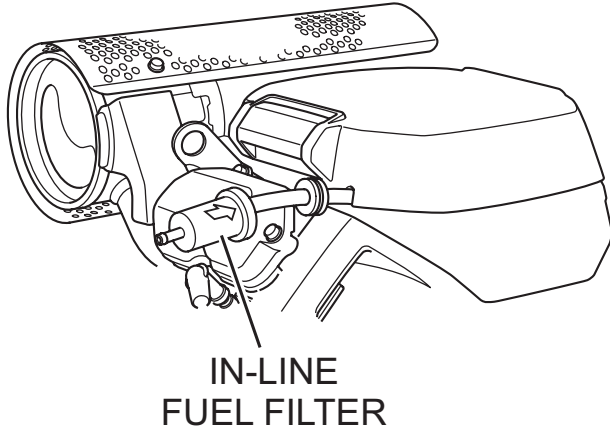

Figure 40. In-Line Fuel Filter
1. Replace the engine fuel filter (Figure 40) every 200 hours.